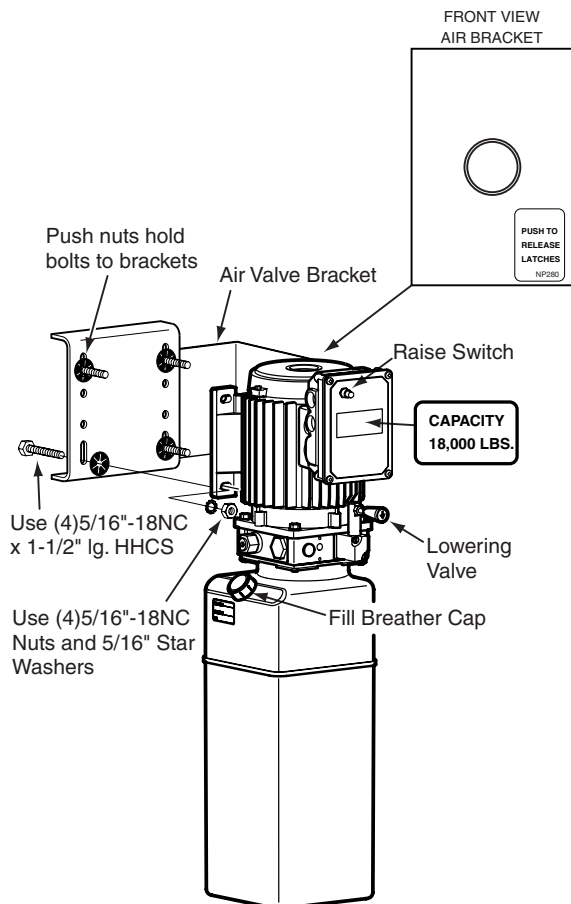

Fig. 17 MOUNTING AIR VALVE BRACKET
- A. Align Latch Release Air Valve Bracket with holes in right side of Column Bracket. Put four  $\frac{5}{16}$ " x  $1\frac{1}{2}$ " hex bolts through holes in Air Valve Bracket and Column Bracket, using push nuts to hold in place, Fig. 17.
D. Attach enclosed NP280 decal (ACTUATE TO RELEASE LATCHES) below button on air valve bracket, Fig. 17. Run 1/4" air line from air valve to the slot in the fixed runway. Cut airline and attach a Tee, Fig. 25.